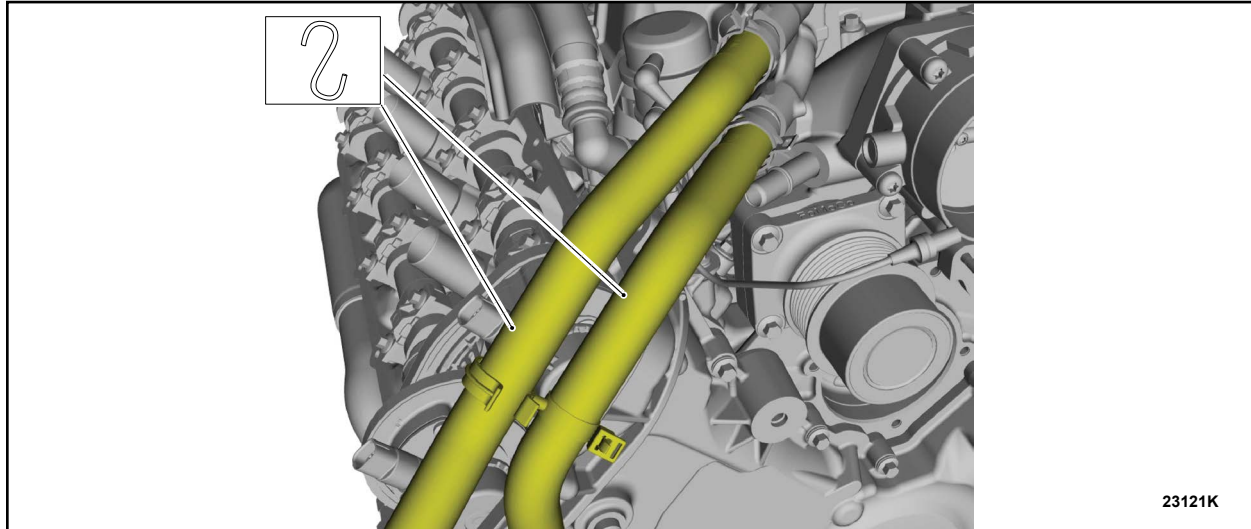

FIGURE 9
22. Secure the coolant hoses aside. See Figure 9.